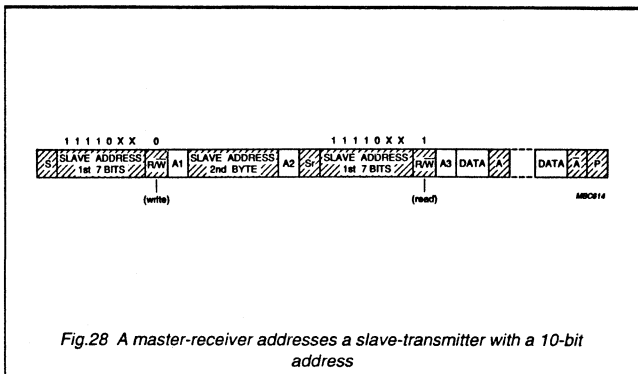

Fig.28 A master-receiver addresses a slave-transmitter with a 10-bit address
- **Master-receiver reads slave-transmitter with a 10-bit slave address. The transfer direction is changed after the second R/W bit (Fig.28).** Up to and including acknowledge bit A2, the procedure is the same as that described above for a master-transmitter